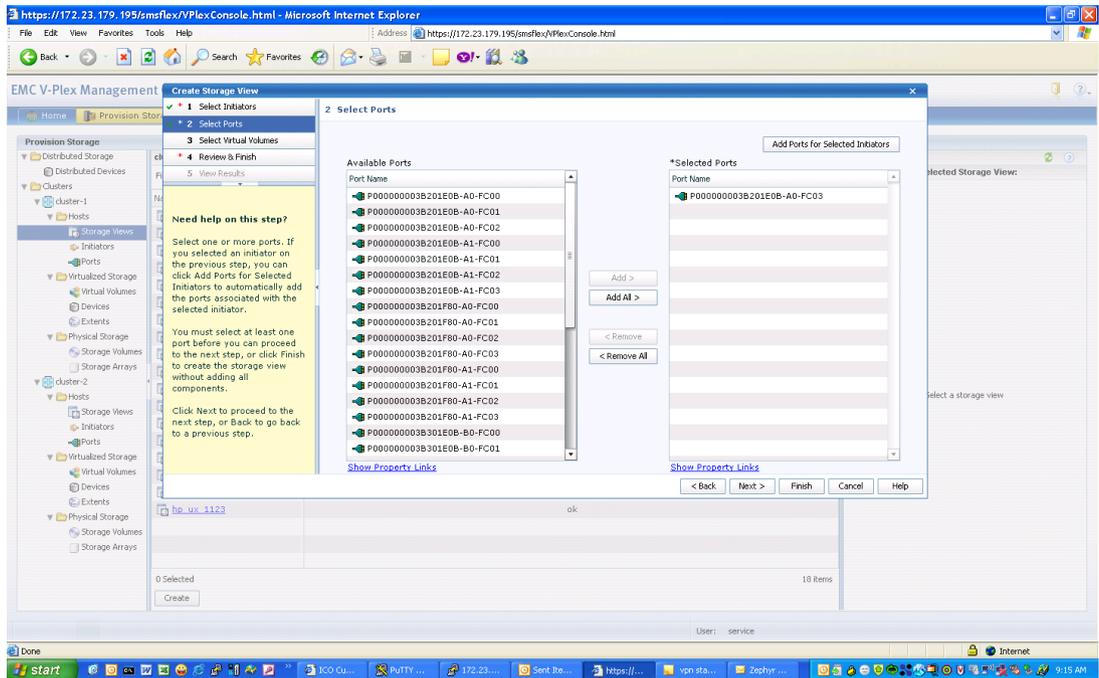

Figure 20 Add ports to storage view
3. Adding ports to the storage view, as shown in Figure 20.